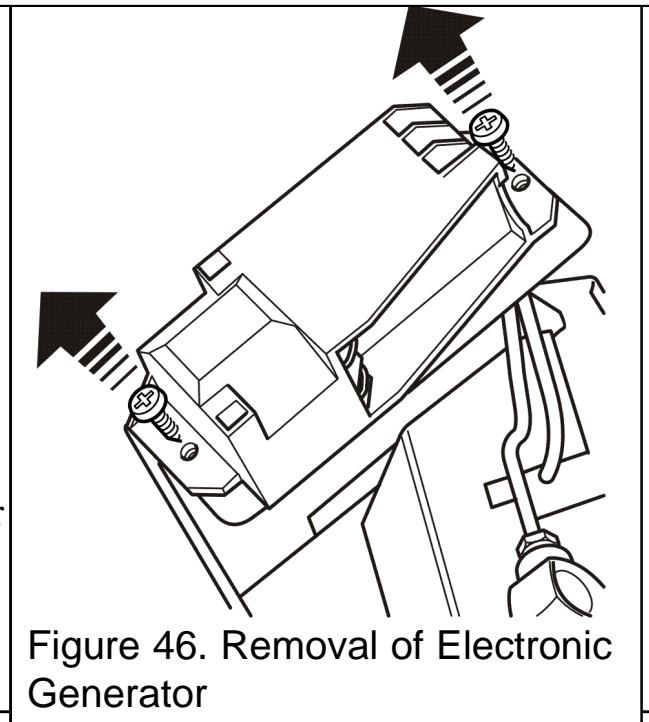

Figure 46. Removal of Electronic Generator
5. Unscrew the two fixing screws that attach the generator unit to the support bracket. The igniter generator can now be removed. (see figure 46)